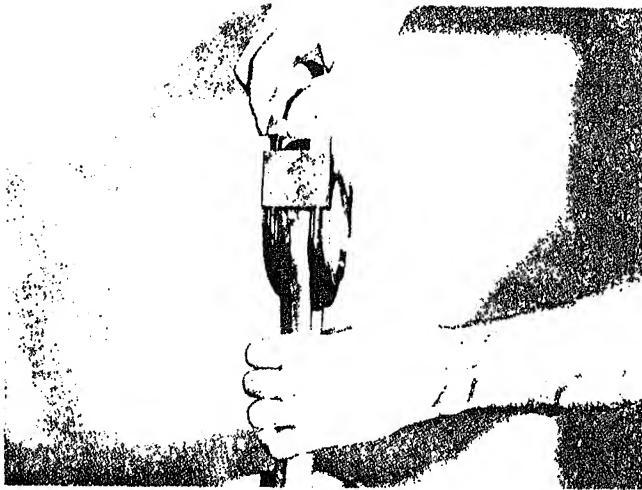

Fig. 0-54. Reassembling cap to connecting rod
5. Reassemble each connecting rod cap to assembly as it is removed, Fig. 0-54; the rod caps are not interchangeable. Label each assembly by cylinder number; tape mating bearing shells together and label each pair by cylinder number for later reference.